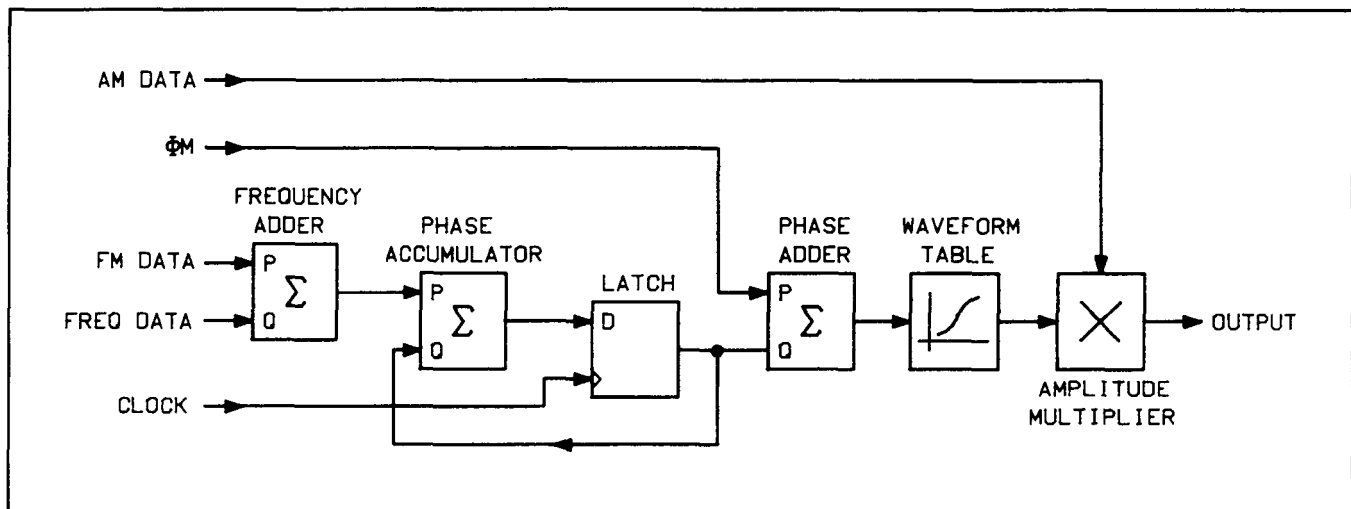

Figure 8-2. Simplified Diagram of One Channel of the DWSIC
Figure 8-2 shows a one-channel portion of the DWSIC. The diagram is highly simplified but detailed enough to illustrate general concepts such as
In many ways the figure resembles an analog function generator, and it may be helpful at times to visualize DWSIC operation using this analogy. (For example, the Waveform Table is analogous to an analog shaping circuit.) However, in the DWSIC all signal lines carry signal information as binary codes. Thus, the “waveforms” shown in the following figures are not really voltage-versus-time plots but are coded-value-versus-time plots. Conversion to an analog signal occurs at the output of the DWSIC and is not shown in Figure 8-2.
It should be noted in Figure 8-2 that each interconnect line in the diagram generally represents a data bus several bits wide.
Look first at the Phase Accumulator and Latch in Figure 8-2. The Phase Accumulator is a binary adder—its output is the sum $P+Q$. The output of the Phase Accumulator is the data (D) input of the Latch. This input is clocked through the latch once each period of the Clock input. The output of the latch feeds back to the Q input of the Phase Accumulator.